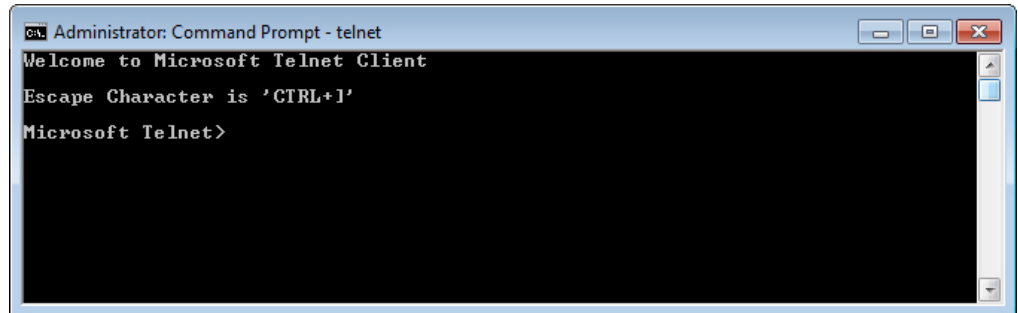

Figure 53. Telnet Window
3. At the `C:\` prompt, type **Telnet** and then press **<Enter>**. The computer returns a display similar to the one shown in figure 53.